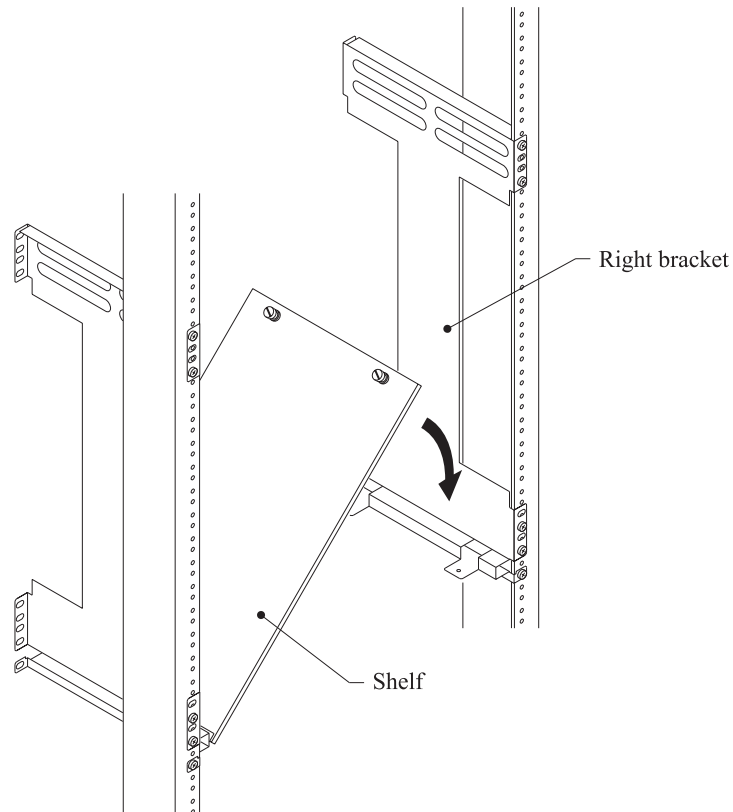
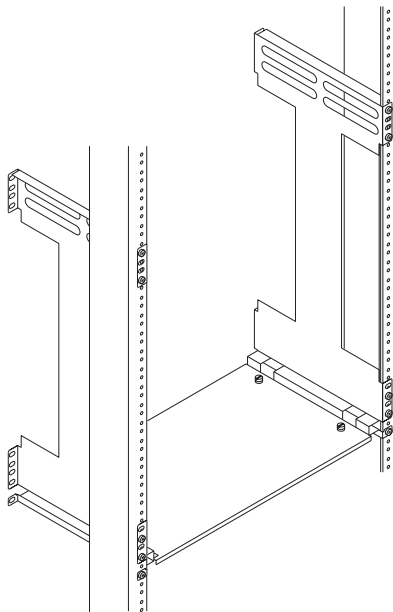

Figure 6. Lowering the Shelf
Figure 6.1. Securing the Shelf
1. Lower the shelf onto the tabs protruding from the right bracket as shown in Figure 6 and use the thumb screws to fasten the shelf to the bracket. The brackets and shelf should look like Figure 6.1 when fully installed.